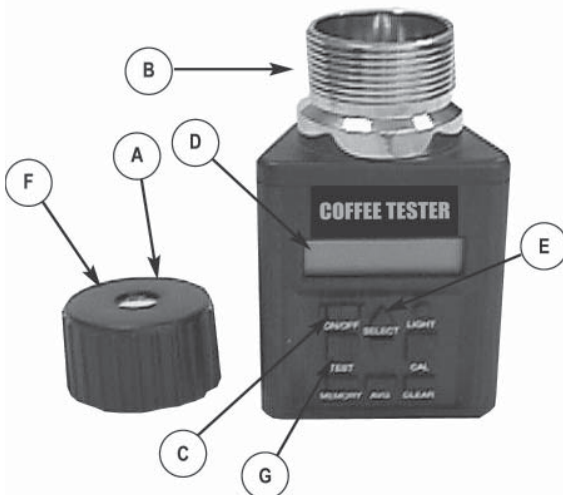

Figure 1.
1. Remove cap (A) and inspect test cell (B) to be sure that it is clean and empty.
2. Press ON-OFF button (C) to turn on tester. The display (D) will show ALWAYS AVERAGE 3 TESTS for approximately 7 seconds, then will show ALFALFA (initial operation) or the name of the last grain tested.
3. When the grain to be tested has been selected using the SELECT arrows (E), fill the test cell (B) even to the top of the cell with sample to be tested.
6. Replace cap (A) and tighten until pressure-indicator screw (F) is flush with the top of cap (A). (Use finger-flush test as illustrated in Figure 1.)
7. Immediately press TEST button (G). The words TESTING will be displayed for about 10 seconds, while the tester compensates for temperature. The moisture % and temperature will then be displayed for about 10 seconds.